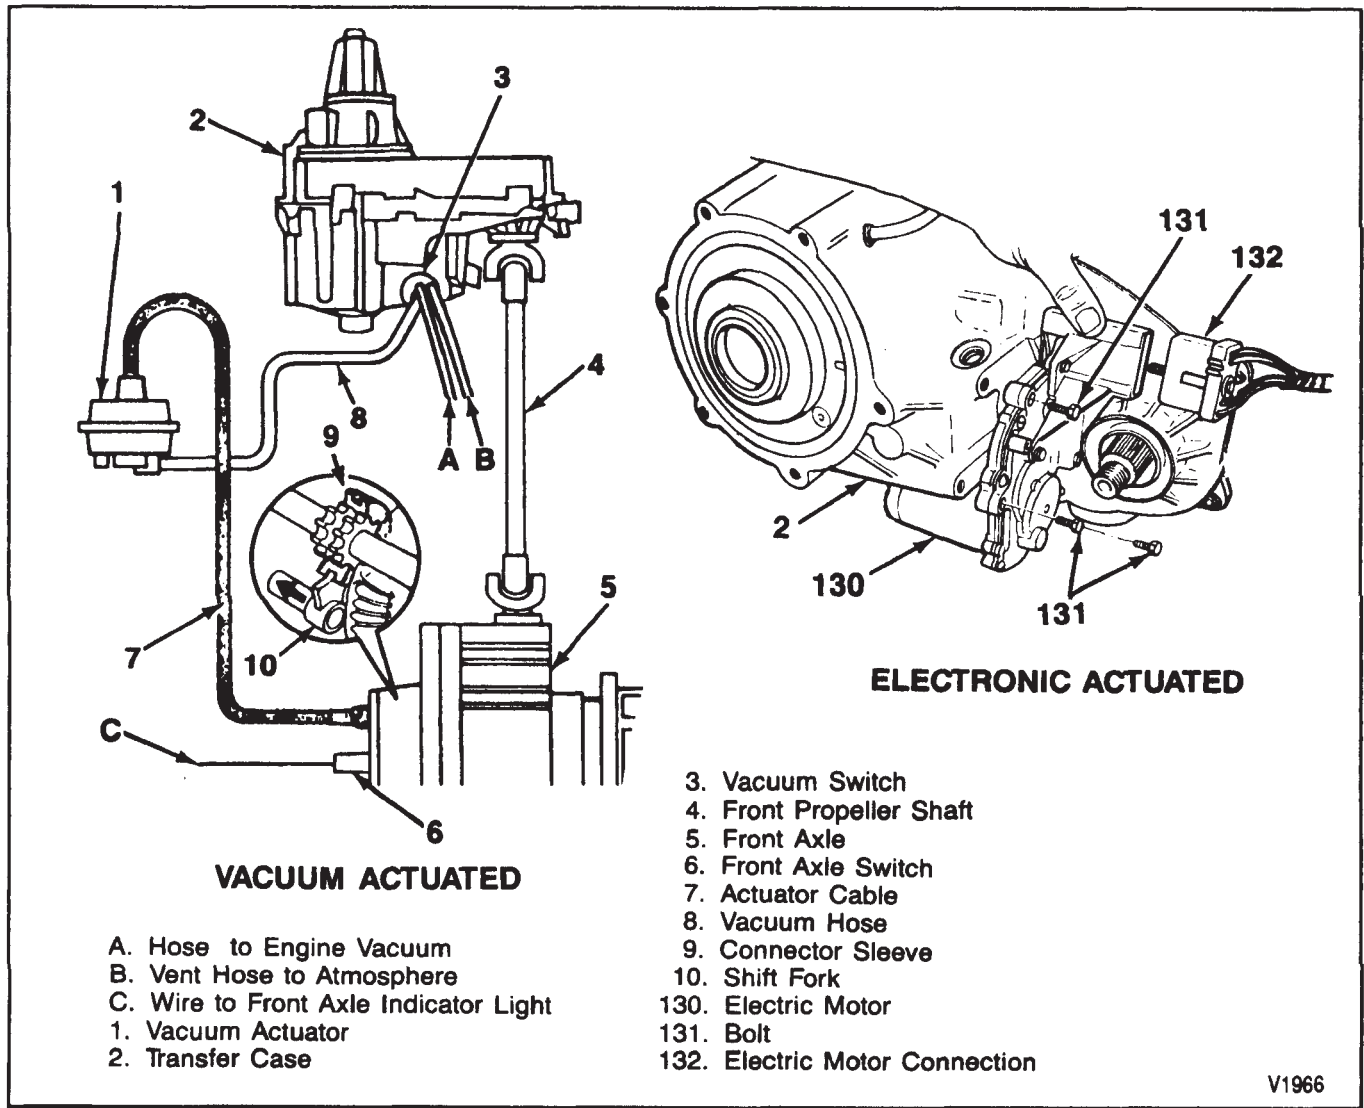
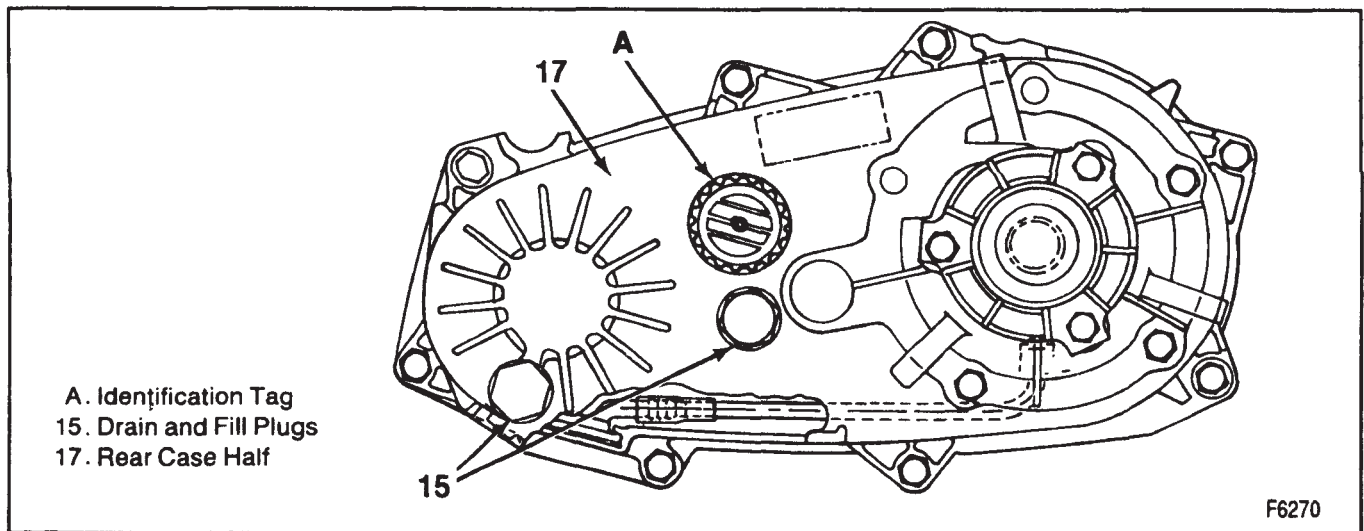

Figure 3—Vacuum and Electronic Actuation System
Figure 4—Transfer Case Identification
4. The shift mechanism in the transfer case triggers a vacuum switch (figure 3). Engine vacuum is then applied to a vacuum actuator, mounted on the right fender well, after a delay of about three seconds. The delay is provided by a restrictor orifice. The delay allows the system to synchronize properly.
An identification tag is attached to the rear case half (figure 4). The tag provides the transfer case model number, low range reduction ratio and assembly part number.
**↔** Remove or Disconnect (Figures 4 and 8)
- 1. Skid plate (39) (if equipped).
- Place a drain pan under the drain plug (figure 3).
- 2. Drain plug (15). Allow the oil to drain.
- 3. Fill plug (15).
**↔** Install or Connect (Figures 4 and 8)
1. Drain plug (15).
- Drain plug (15) to 25 N.m (18 ft. lbs.).
- 3. Filler plug (15).
- Fill plug (15) to 25 N.m (18 ft.lbs.).
- 4. Skid plate (39) (if equipped).